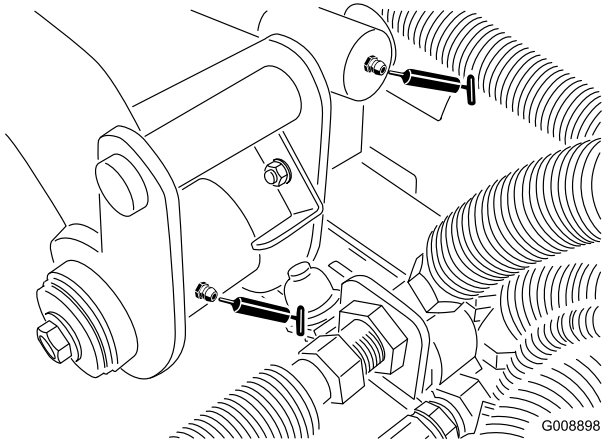

Figure 40
- Rear lift arm pivot and lift cylinder (2) (Figure 40)